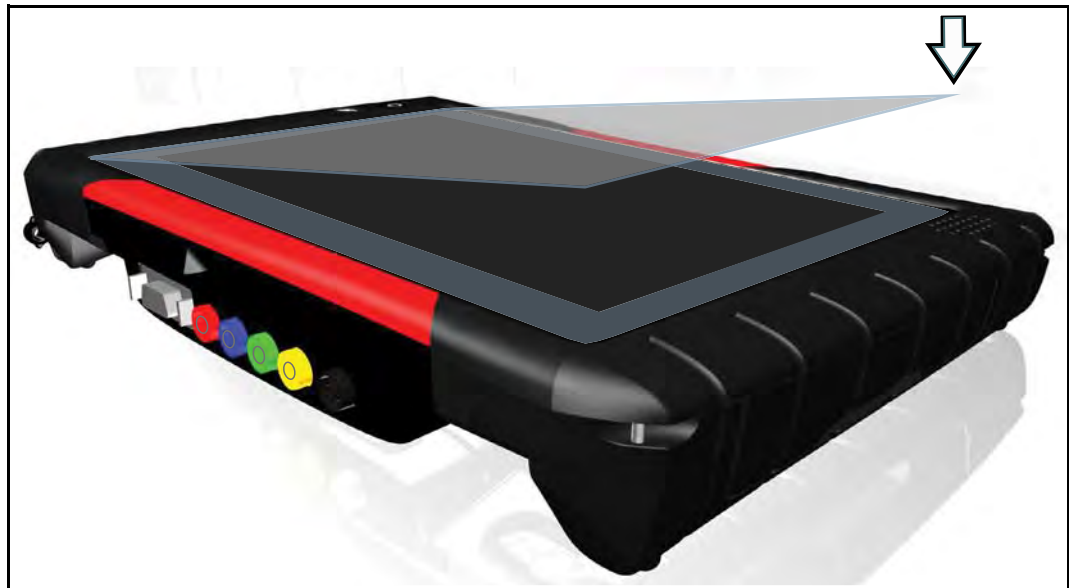

Figure 16-6
3. Carefully align the edge of the protector with the edge of the screen, and slowly allow the screen protector to lie flat on the screen (Figure 16-6).